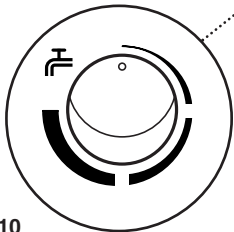

Fig. 10
- 4. Domestic Hot Water:** The temperature of the domestic hot water can be adjusted by turning the control knob clockwise to increase up to a maximum of 65° C (Fig. 10).